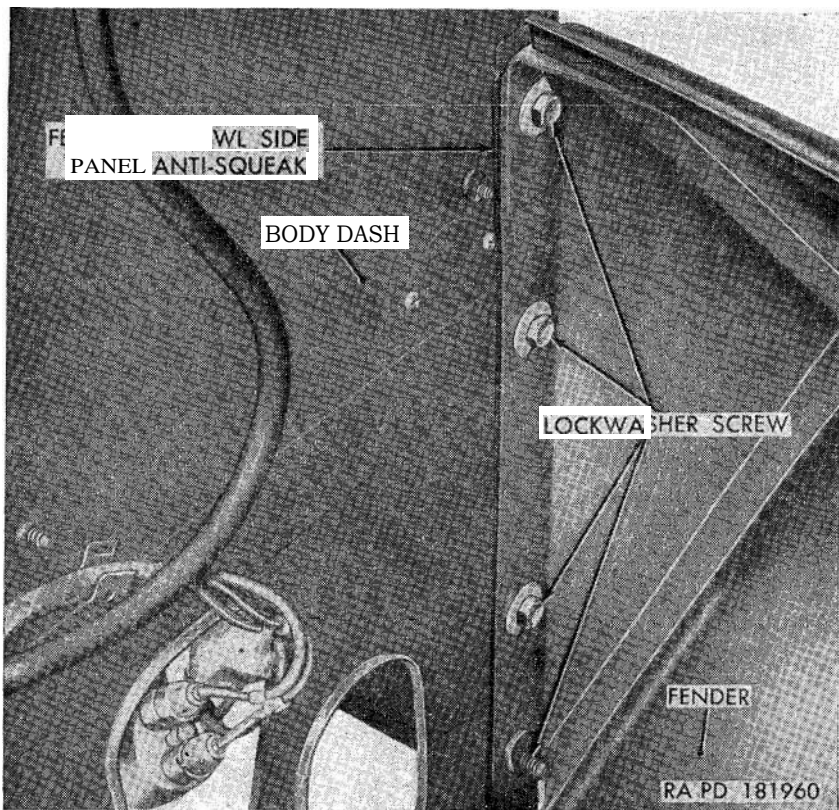

Figure 178. Rear of left front fender secured to body dash.
- (1) Raise hood and lock in raised position (par. 255a).
- (2) Remove blackout driving light assembly (par. 164b).
- (3) Remove horn assembly (par. 184d).
- (4) Free the electrical cables from the four fender clips. Free the fuel line from the fender clip.
- (5) Remove the four lockwasher screws (fig. 178) securing the rear of the left front fender to the front of the body cowl.
- (5) Secure the rear of the fender to the body cowl, from the engine side, with three  $\frac{5}{16}$  x  $\frac{7}{8}$  lockwasher screws (fig. 178). Working beneath the body, install the bottom  $\frac{5}{16}$  x  $\frac{7}{8}$  lockwasher screw through the body cowl into the fender.